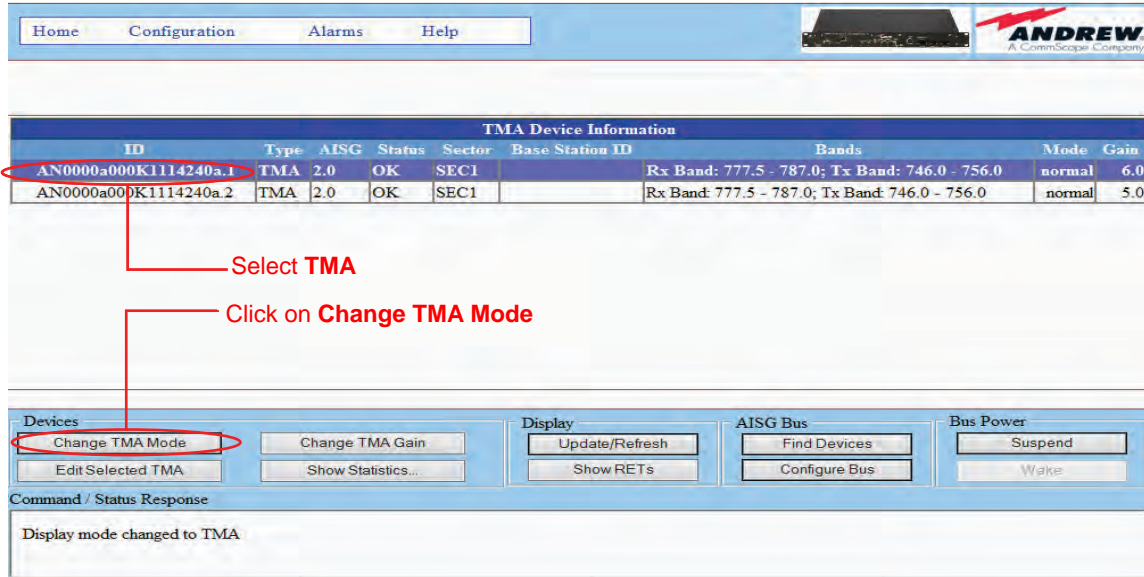
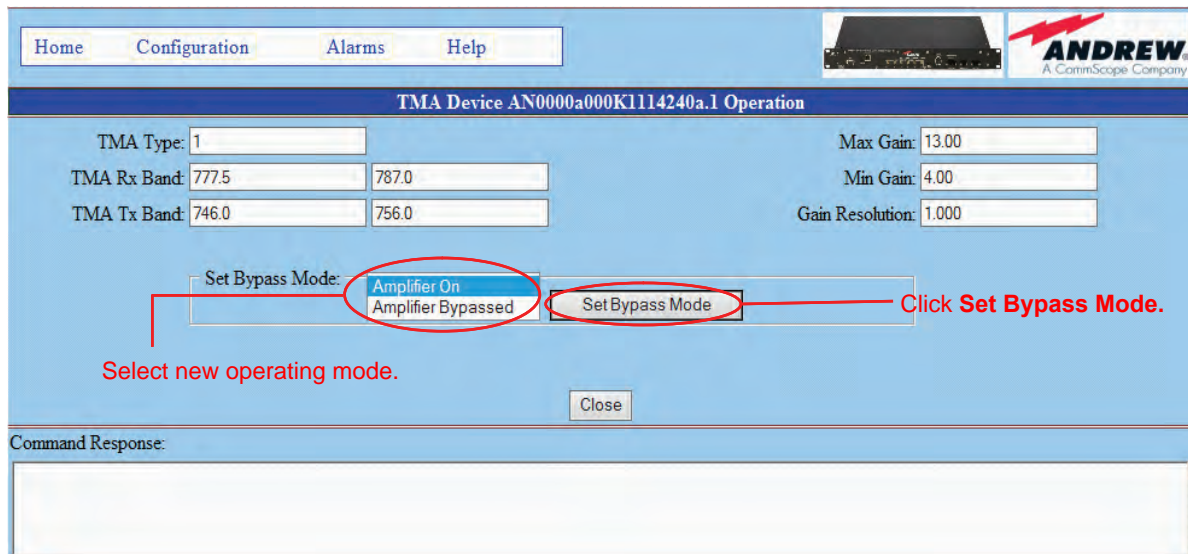

Figure 23-10. ATC300 Controller's Main Interface Screen - TMA View.
Figure 23-11. Changing the operating mode on a TMA.
1. To change a TMA's operating mode, select the TMA from the TMA device information list on the controller's main screen, as shown in Figure 23-10. Then click on **Change TMA Mode** to enter the TMA Device Operation screen (Figure 23-11). Notice that the ID for the device that was selected from the main screen appears in the title bar of the Device Operation screen.
2. Select the desired operating mode from the mode dropdown list, as shown in Figure 23-11. The operating mode options are **Amplifier On** or **Amplifier Bypassed**. Then click on **Set Bypass Mode**.